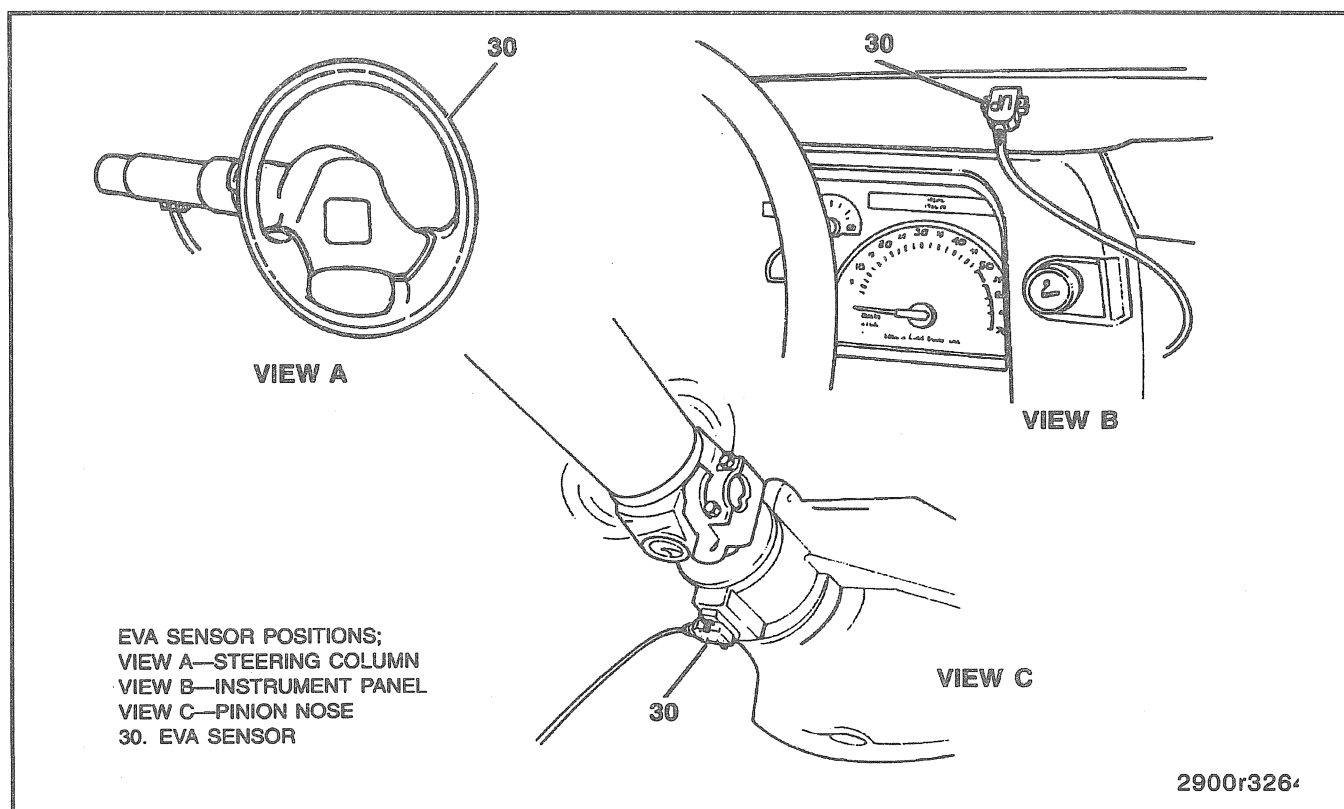

Figure 17—EVA Sensor Positions
3. Place the strobe light wheel balancer pickup or the EVA sensor under the nose of the carrier (Figures 17 and 19).